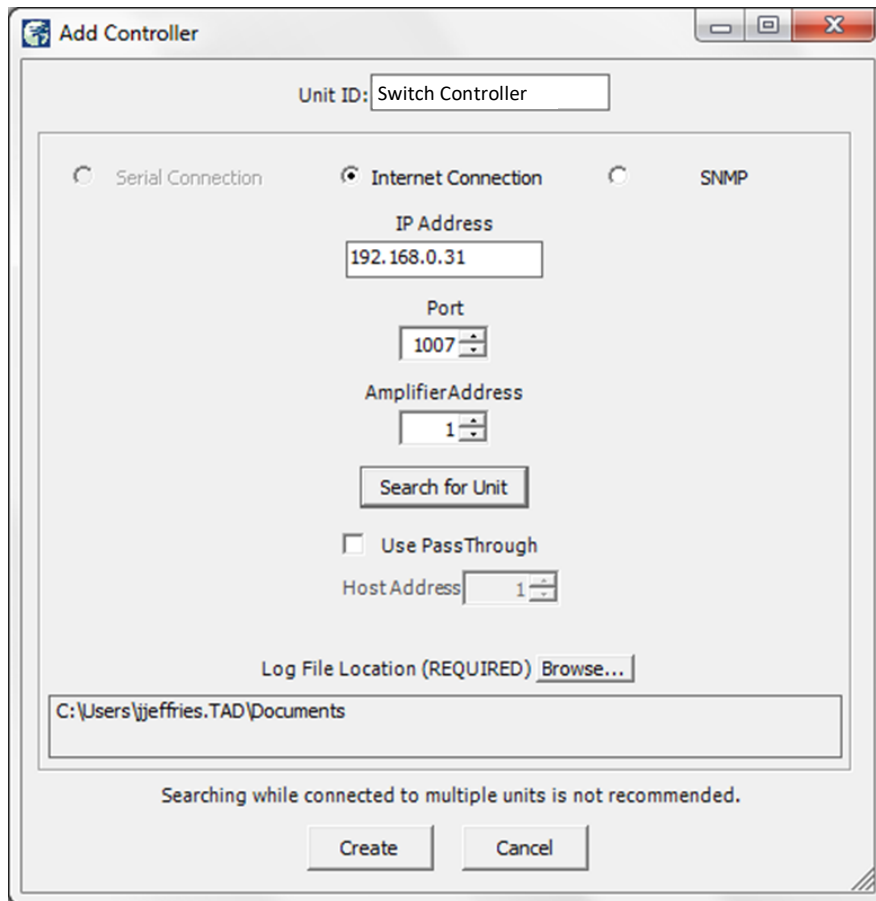

Figure 7-2: Dialog Window, Add Controller
2. A new dialog window will open. See **Figure 7-2**.